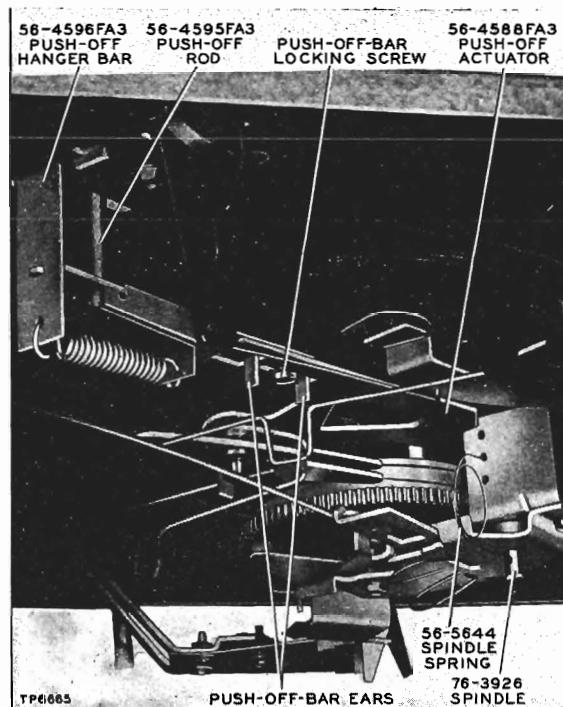

Figure 21. Push-Off Adjustment, Showing Push-Off Actuator in Contact with Roller on Cam Gear
Push the REJ.—AUT.—MAN. control to REJ., and rotate the turntable $2\frac{1}{2}$ revolutions, by hand; at this point, the push-off actuator, Part No. 56-4588FA3, is in its most forward position, in contact with the roller on the cam gear; see figure 21. Loosen the push-off-bar locking screw, shown in figure 21. Squeeze the push-off-bar ears toward each other to the point where the slider blade on the record shelf extends $\frac{1}{32}$ " beyond the lips of the shelf. Tighten the hex-head locking screw.
- Unhook both ends of spindle spring, Part No. 56-5644, from "U"-shaped bracket mounted under changer base plate (figure 21).
- c. Press push-off rod, Part No. 56-4595FA3, and push-off hanger bar, Part No. 56-4596FA3 (figure 21), together and pull downward, to release the entire assembly.
- Remove flat spring, Part No. 56-4778FA38, by sliding it laterally through underside of button (figure 21).